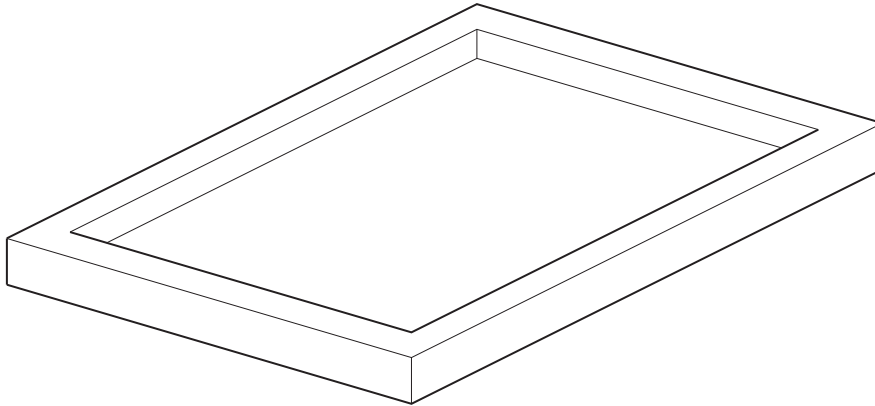

Fig. 3
- 3 Fig. 3 shows a prototype tray used for mail order delivery of DVDs in their cases.
- (a) (i) Name a specific plastic that could be used to vacuum form the tray shown in Fig. 3.